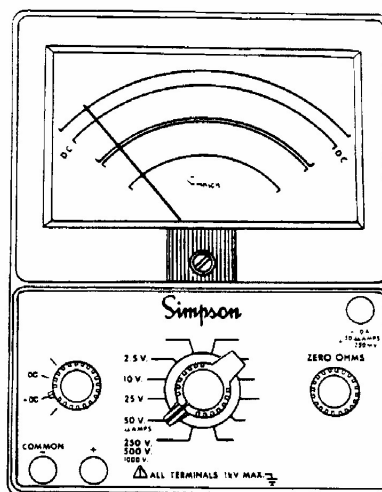

FIGURE 4-1. JACKS AND SWITCH POSITIONS FOR MEASURING DC VOLTAGES, 0-250 V RANGES
- Set the function switch at +DC (Figure 4-1).